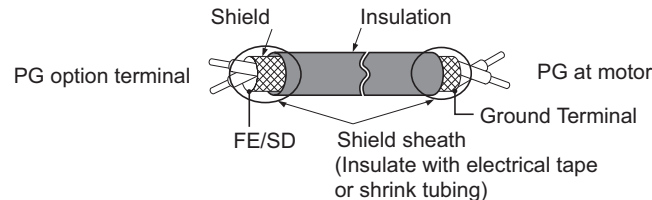
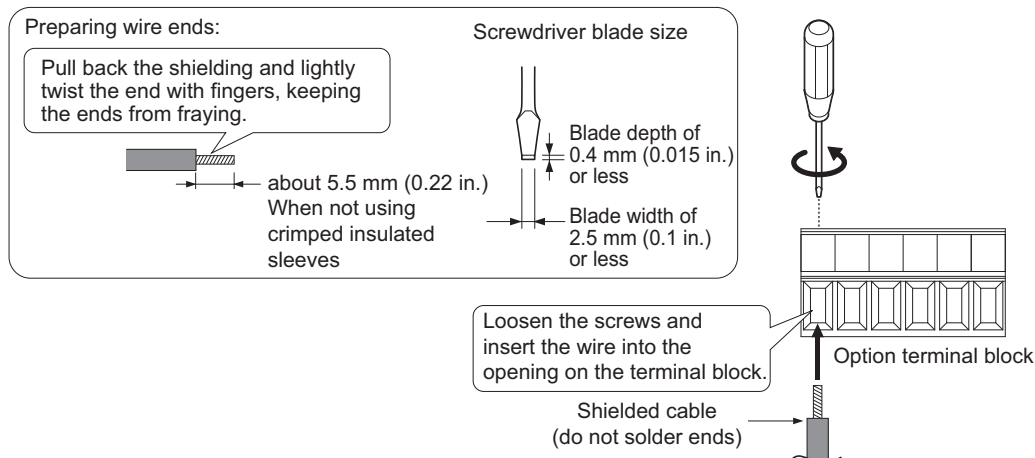

Figure 87 Preparing Ends of Shielded Cable
Figure 88 Preparing and Connecting Cable Wiring
2. There are two screw holes on the drive for use as ground terminals (I). When connecting three options, two ground wires will need to share the same drive ground terminal.
4. Prepare and connect the wire ends as shown in **Figure 87** and **Figure 88**. **Wire Gauges and Tightening Torques on page 155** to confirm that the proper tightening torque is applied to each terminal. Take particular precaution to ensure that each wire is properly connected and wire insulation is not accidentally pinched into electrical terminals.